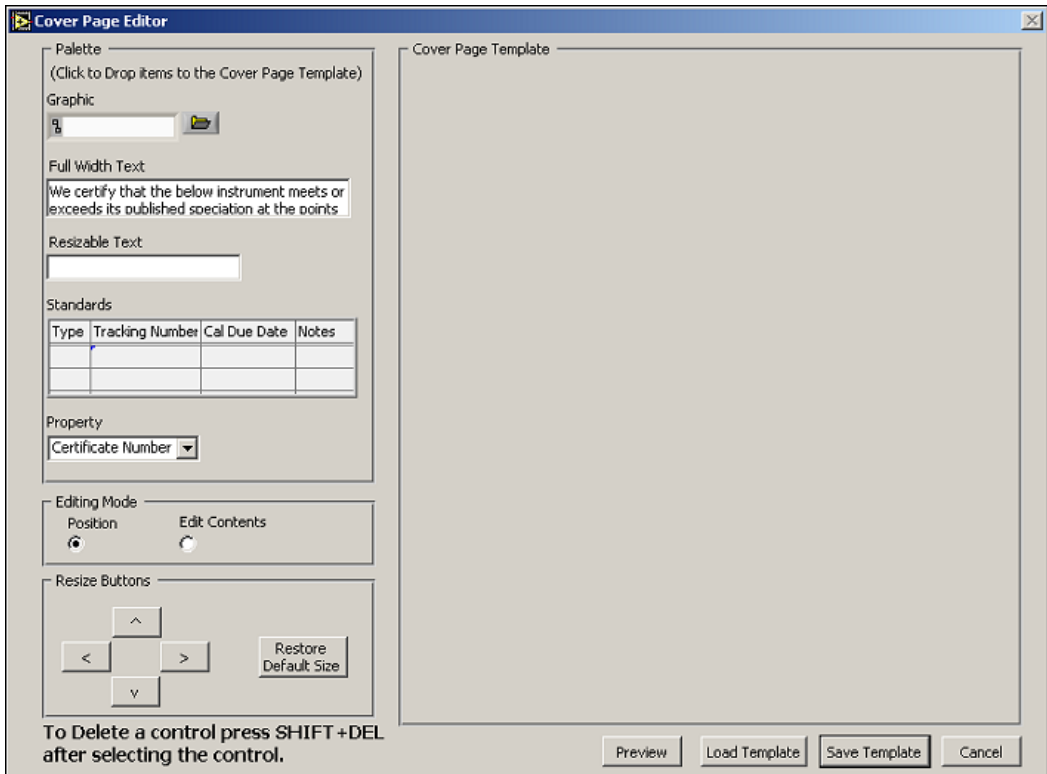

Figure 2-14. The Cover Page Editor Template
2. Click **Customize Cover Page**. The Cover Page Editor displays a blank template, as shown in Figure 2-14.